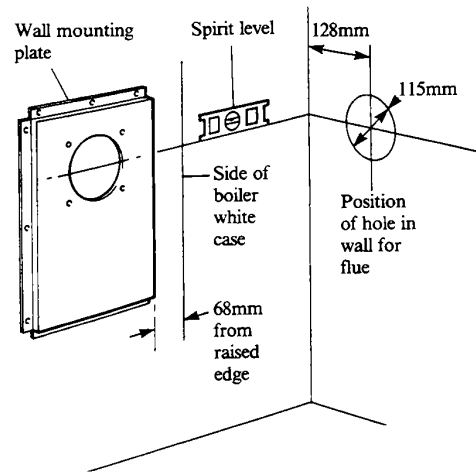

Fig. 16
3. Continue the horizontal flue centre line across the wall until it reaches the side wall and continue it around onto the side wall as shown in Fig. 16. Ensure these lines are level.
4. Mark the position of the hole for the flue duct as shown in Fig. 16.